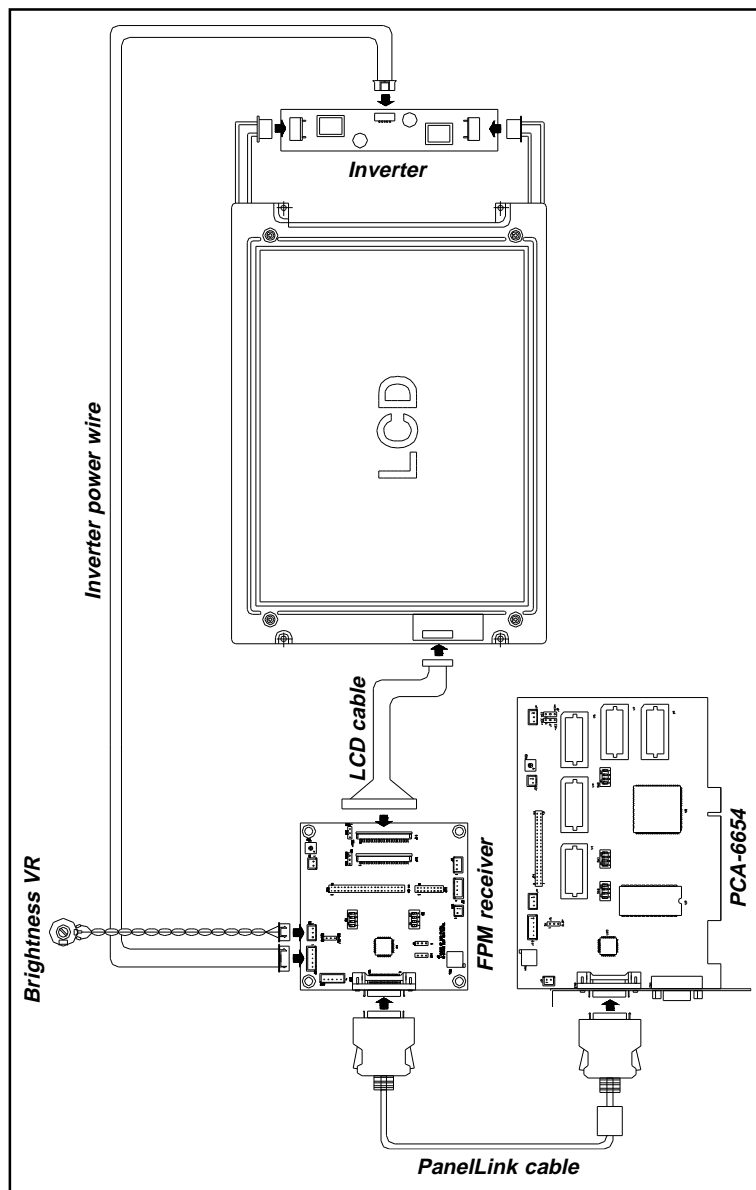

Figure 4-4: TFT LCD setup
13. Connect the PanelLink cable, LCD cable, inverter, inverter power wire, and VR assembly with wire to J2. (See Fig. 4-4.)